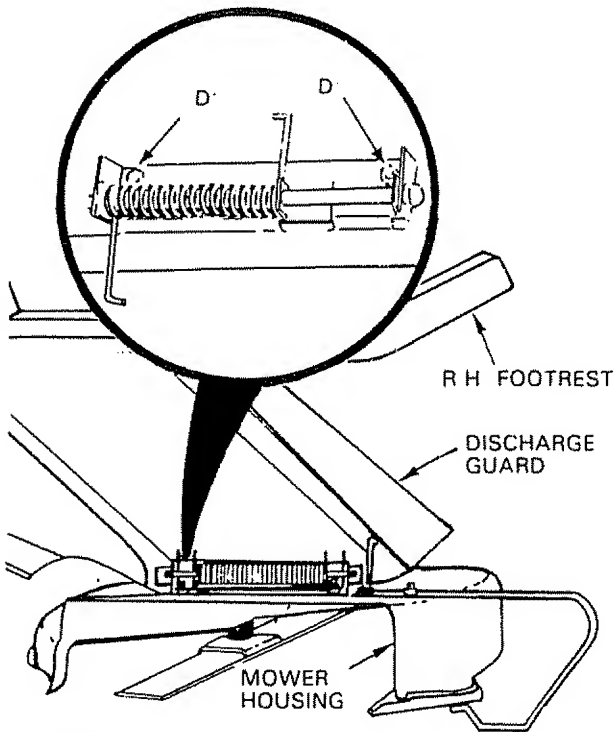

FIGURE 5
11. Using a 1/2" wrench remove hardware "D" (Fig. 5 - Inset) securing discharge guard to mower housing. Hardware may be discarded.